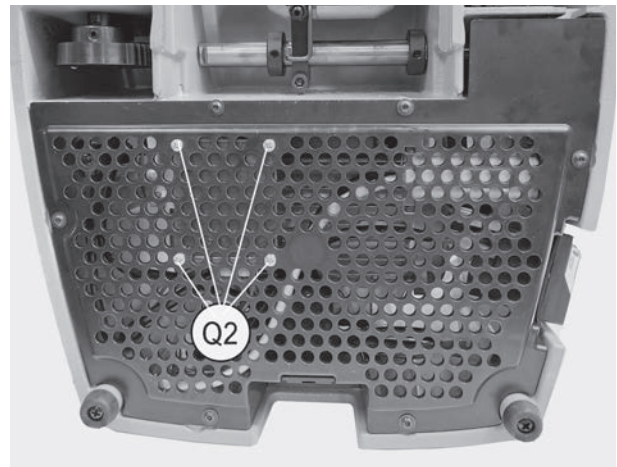

Fig. 40
- 4) Loosen the screws (Q2) fixing the transformer to the bottom plate and remove (Fig. 40).